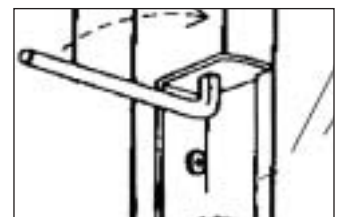

Fig. 5
5. To adjust the door's closing tension, insert an allen wrench (part number 44711304, or a 5/32-inch wrench) into the frame hole and rotate the tool approximately three "clicks" (figure 5). Proper closing tension is achieved when the door is opened to a width of one inch, and then closes by itself.